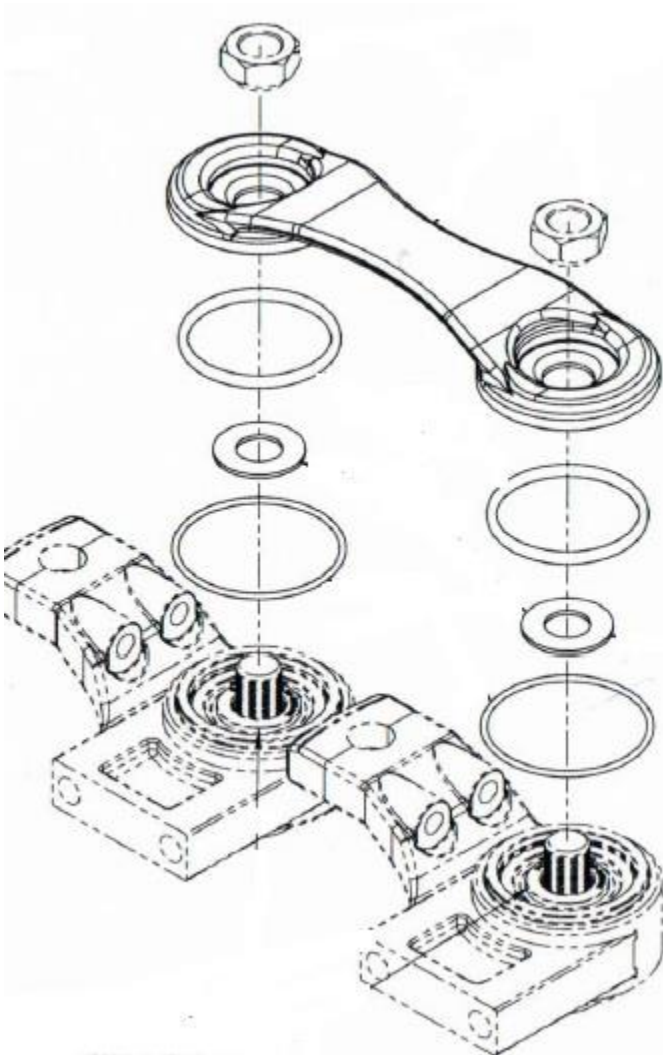

Figure 4
- Figure 4 shows the locations of the O-rings.